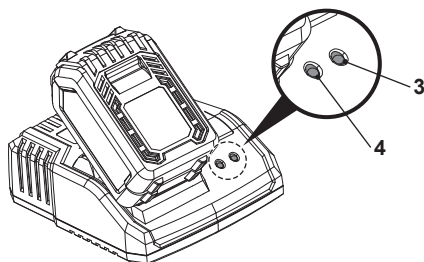

Fig. 4
The indicators (3, 4) on the charger (1) show the charging status (Fig. 4).